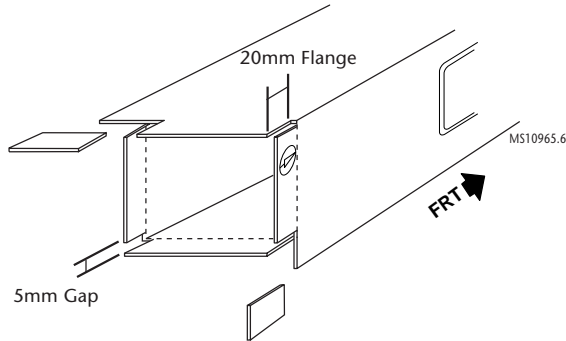

Figure 5-5:
- 3 Cut and remove approximately 20mm ($\frac{3}{4}$ in) of the outboard and downward turned flanges of the service part. Cut a 5mm ($\frac{3}{16}$ in) gap approximately 20mm ($\frac{3}{4}$ in) along the corners of the service part to create tabs on the four sides of the rail (figure 5-5).